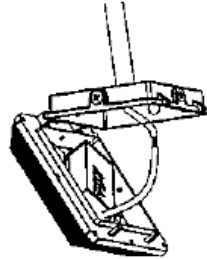

Figure 1-5
5. Connect the wires properly. If the fixture is equipped with sensor, adjust the sensor settings as you e require. Take relevant waterproof measures after finished wiring; Figure 1-5